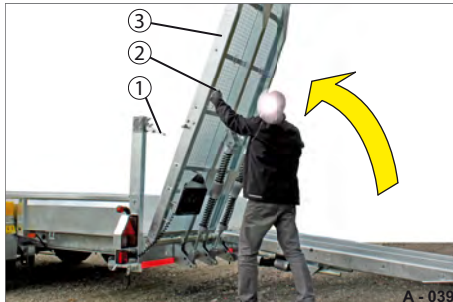

Fig. 41 Raising the drive-up ramp, one-piece
- ▶ Raise the ramp (Fig. 41/3) by the handles (Fig. 41/2).